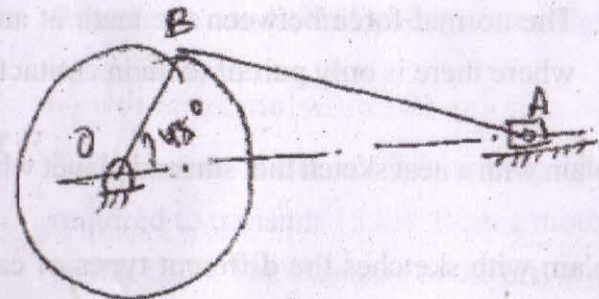

Fig 1
- 3. In a slider crank mechanism, in fig.1. the length of crank OB and connecting rod AB are 125 mm and 500 mm respectively. The centre of gravity G of the connecting rod is 275 mm from the slider A. The crank speed is 600